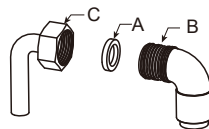

Fig. 8
The appliance has an G 1/2" threaded pipe connector to connect it to the gas system. Please ensure that the connection is made using a rigid pipe. When making the gas connection, it is important to place the gasket (A) in between the inlet pipe (C) and the elbow (B) to ensure a tight gas seal (Fig. 8).